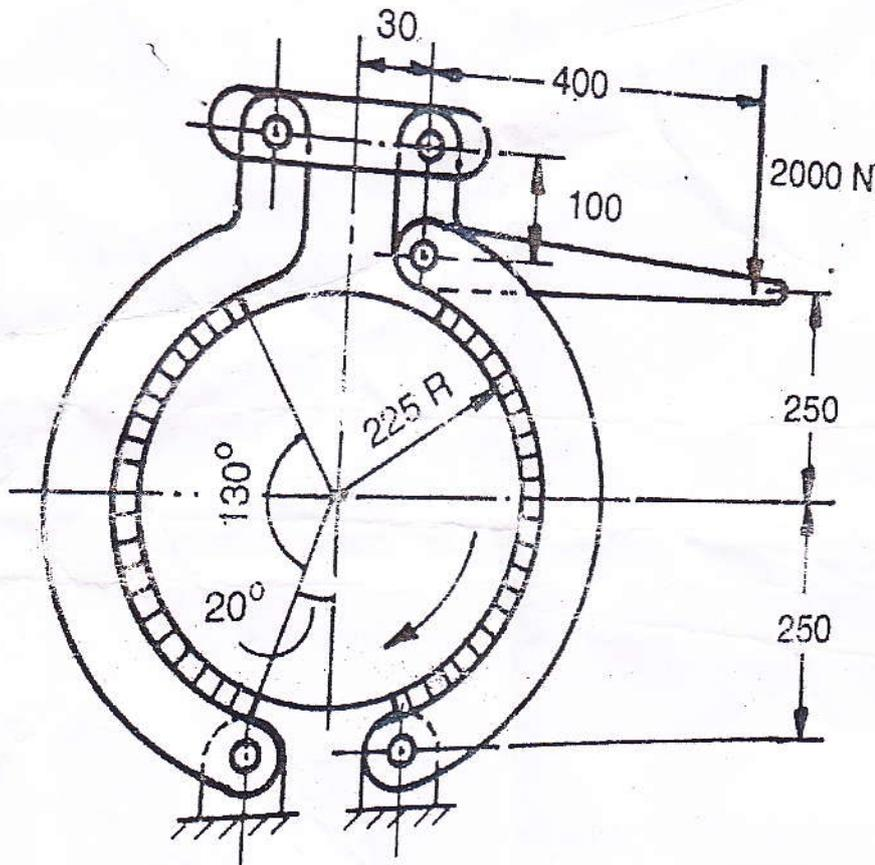

Figure I-1 Question 3 (b)
b) The brake is shown in Figure I-1 requires an actuating force of 2000N at the end of the lever. Coefficient of friction is 0.3 and maximum pressure intensity is 1MPa. Determine the width of the shoe and the braking capacity. [8]